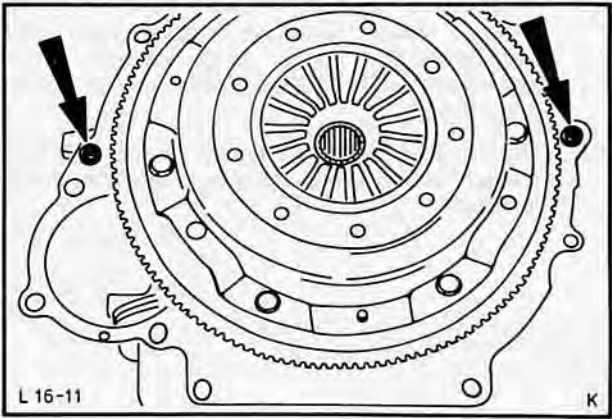

Fig. 19. Clutch housing dowl bushes, 'B' engine
16. If necessary, transfer guide bushes from clutch housing to engine block and attach adaptor plate, Fig. 19. Lightly grease input shaft.